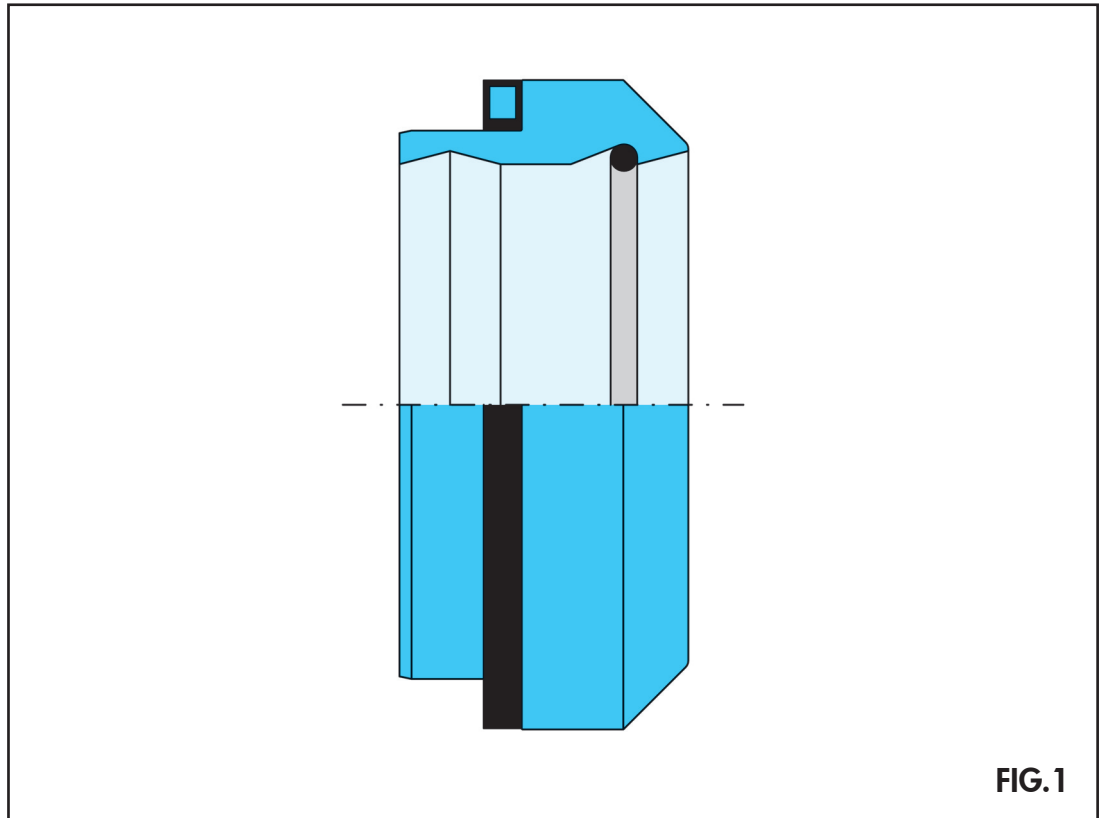

FIG.1
The new clamping ring AR3/C (Figure 1), has been designed and developed by RASTELLI RACCORDI with the aim of offering to the market a specific, simplified product that is now available together with ring AR3, the version manufactured in stainless steel only, of which it keeps the following basic characteristics:
The clamping ring AR3/C (Figure1) was conceived, designed and tested on the basis of check and control methods applied in the development of new products according to a FLOW CHART defined in the ISO 9001 CERTIFICATION, that RASTELLI RACCORDI has implemented in its company structure.
- b.1) Minimum length of the straight tube in elbows: at least twice the height of the nut TN81 (H). (Figure 1)